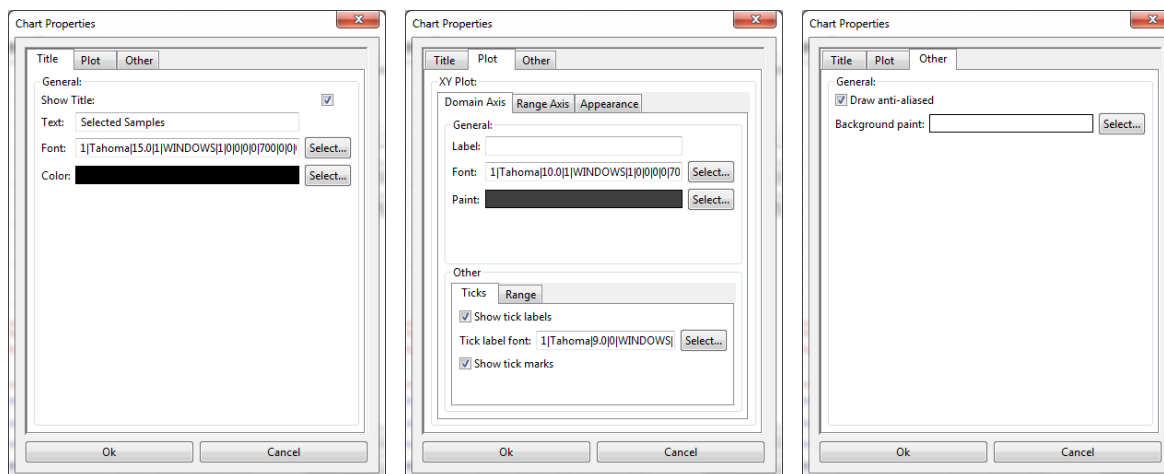

Figure 61: Plot Properties are organized into 3 tabs
- *Properties:* This opens a dialog box that allows you to change many properties of the plot display, including changing the title, specifying X and Y axis labels, entering X and Y ranges, and even changing fonts. These properties are spread over 3 tabs, as shown in Figure 61.